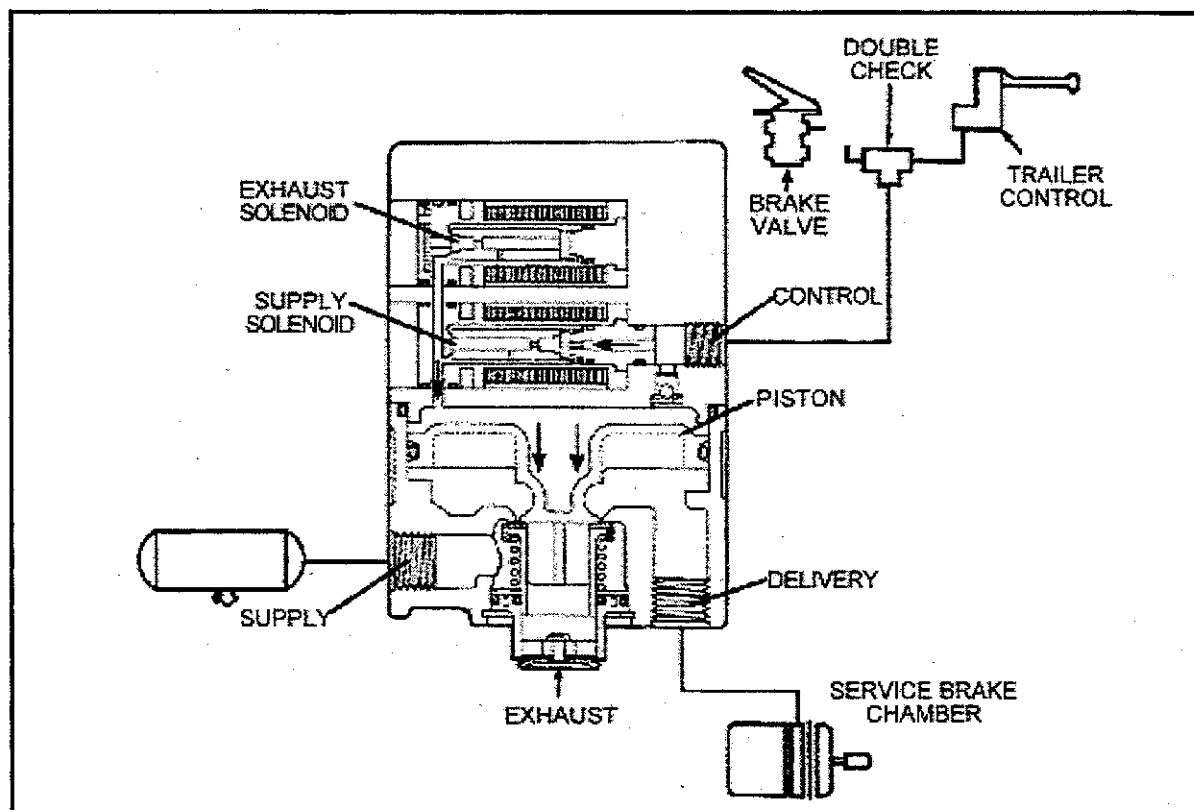

Figure 5—Balanced Position Normal Service Application
- See Figure 5—Balanced Position Normal Service Application